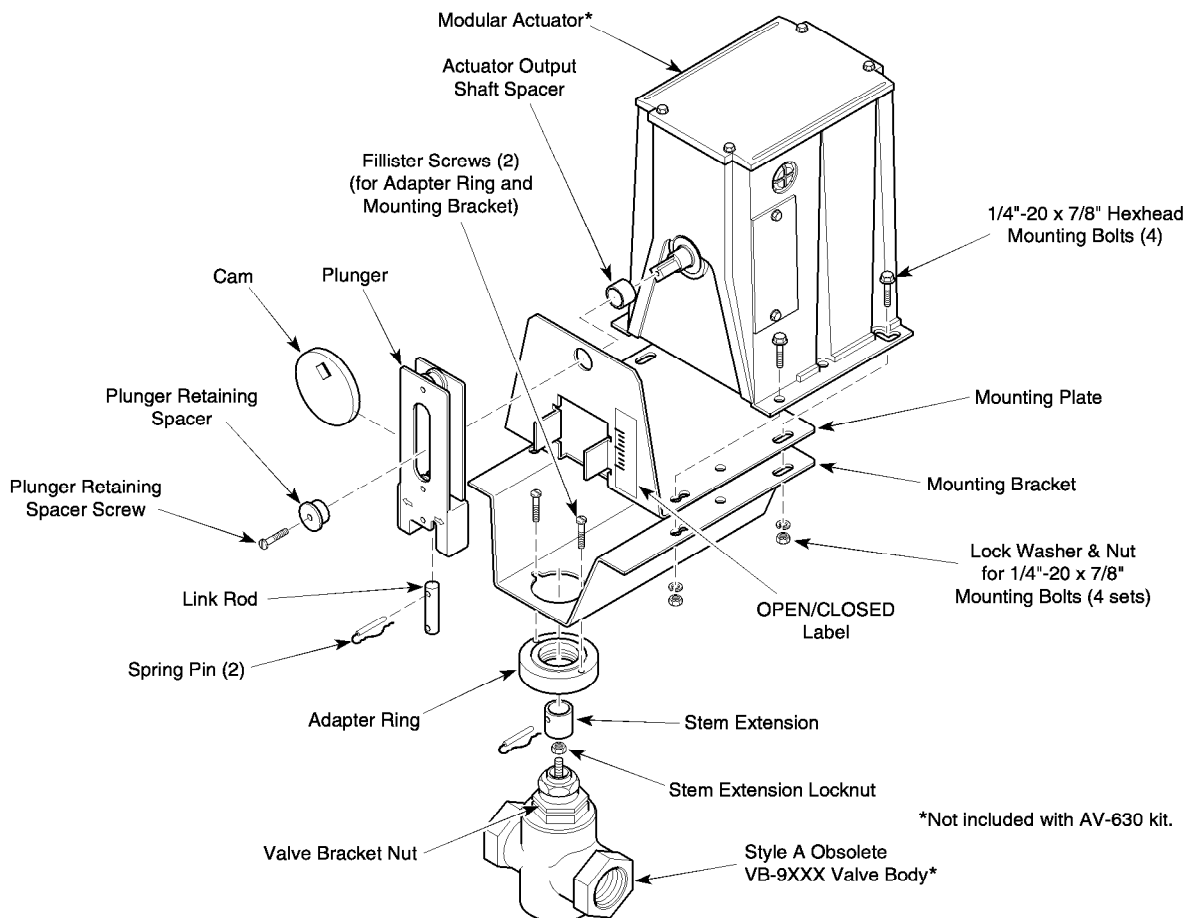
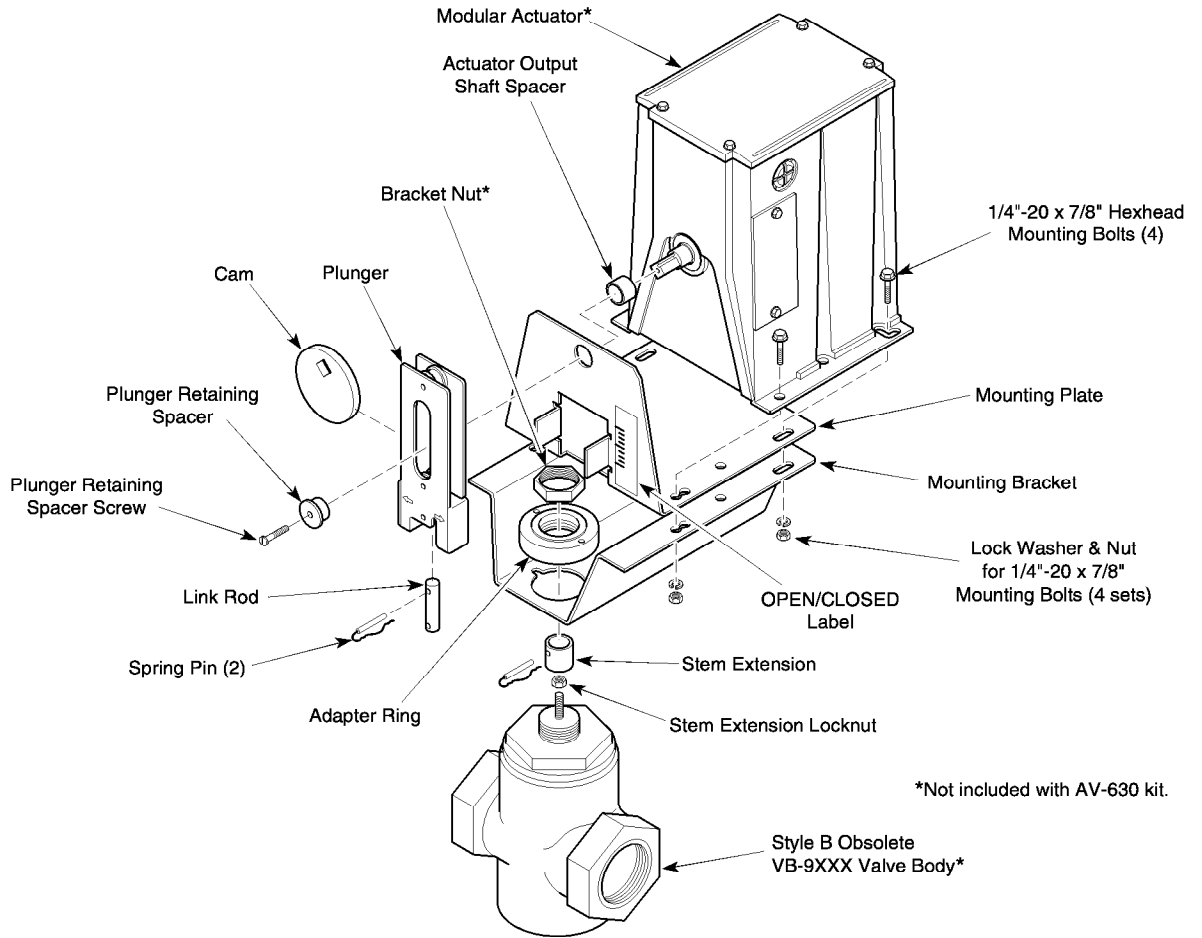
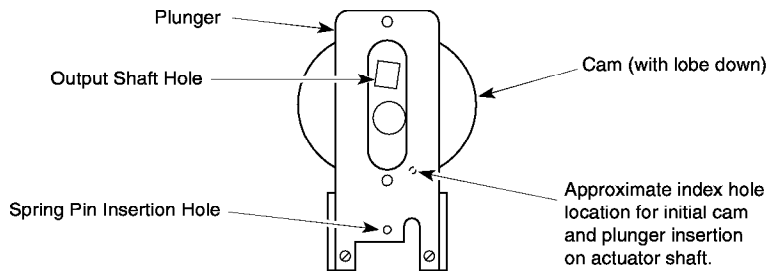

Figure-3 Assembly of AV-630 or AV-630-020 Valve Linkage with Style A Obsolete VB-9XXX Valve Body.
Figure-4 Assembly of AV-630 or AV-630-020 Valve Linkage with Style B Obsolete VB-9XXX Valve Body.
Figure-5 Initial Cam Installation Position for Valves Assembled to the “Load, Normally Closed–CCW Spring Return” or “Load” End of MM-400/500 Series Actuators.
See Table-2, Figure-3, Figure-4, and Figure-5.
3. For style A VB-9XXX valves only, place the adapter ring on the underside of the valve mounting plate. See Figure-3.
4. For style A VB-9XXX valves only, insert the two 1/2" long fillister head adapter ring screws through the ears of the mounting plate adapter hole and into the adapter ring, and secure. See Figure-3.
10. With the word "POSITION" marked on the bottom of the plunger facing the installer, insert the cam into the plunger *with the cam part number facing the installer*. The cam square shaft hole must be located on the top of the plunger slot and the index hole located as shown in Figure-5.